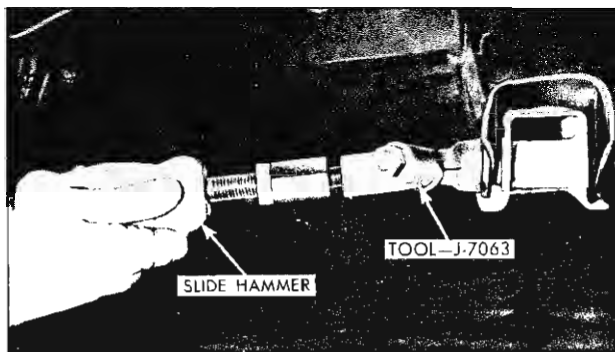

Fig. 10—Removing or Installing Rear Shock Absorber Lower Anchor Pin
2. Install Tool J-7063 as shown in Figure 10. Attach Tool J-2619 and drive pin out of rear suspension lower control arm.